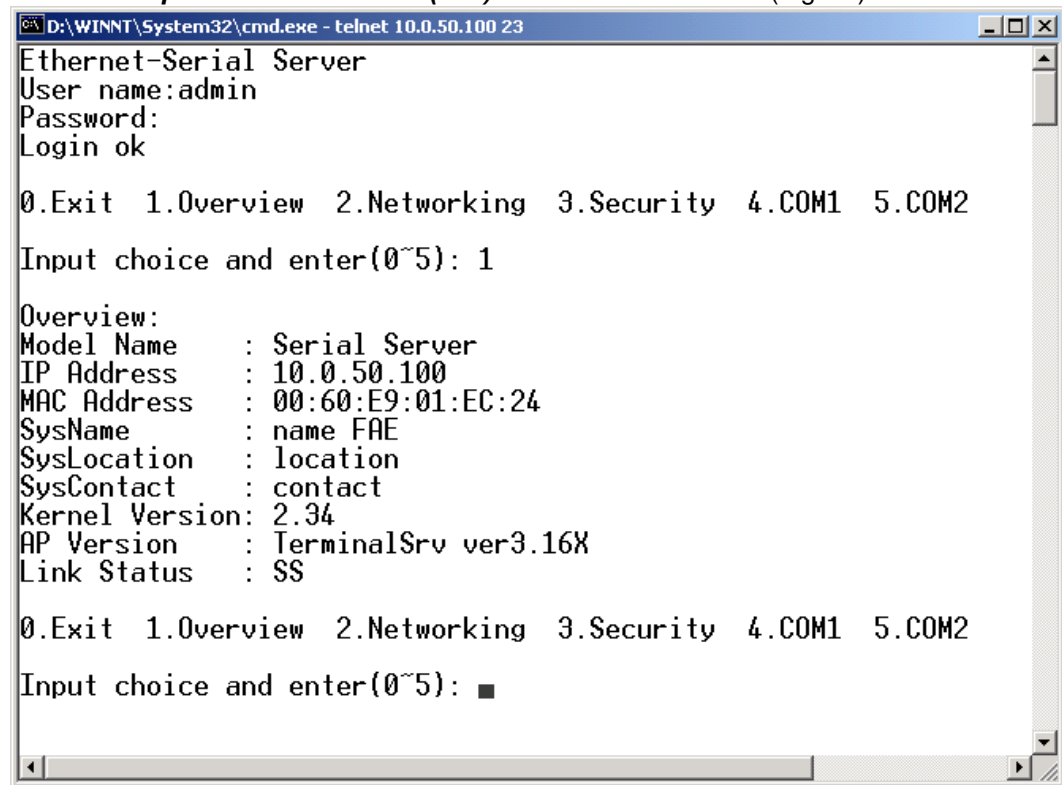

Fig. 11. System configuring using Telnet
->Select “1” from “**Input choice and enter (0~5):**” to enter “**overview**” .:(Fig. 11)